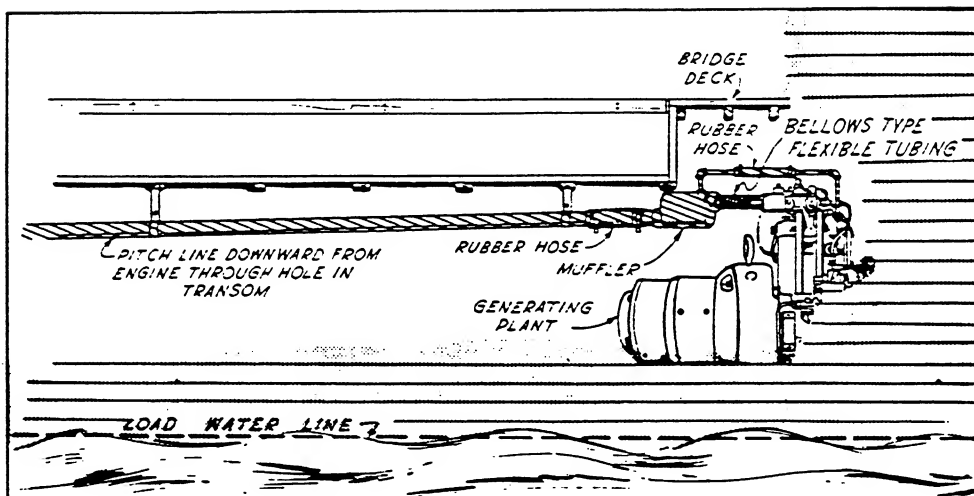

FIG. 4
2. The simplest installation of the generating plant and the watercooled muffler is made where the entire exhaust line can be made to slope gradually towards the point of outlet through the hull. The water discharge from the engine is piped into the top connection of the muffler which forms part of the trap for the water to protect the engine. See Fig. 4.